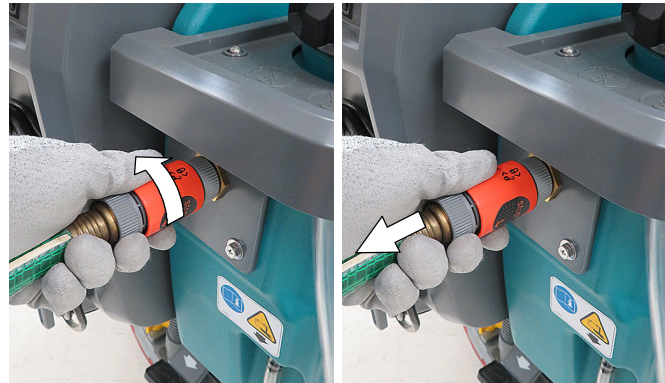

FIG. 26
6. Turn collar on coupler counter-clockwise to unlock connection. Then simply pull back on coupler to disconnect hose from machine (Figure 26).